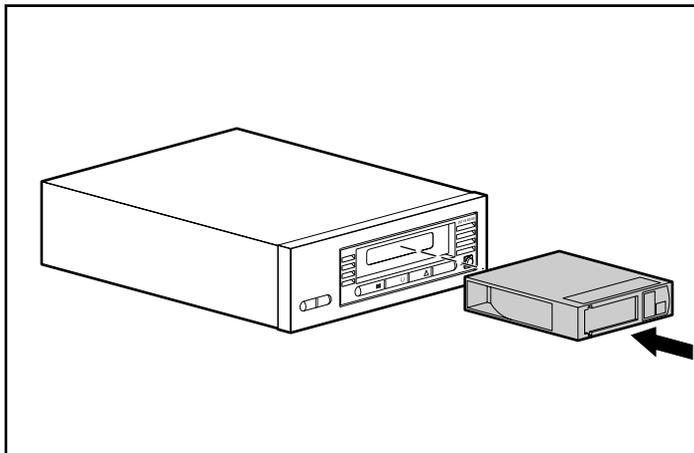

Figure 13: Inserting a DLTape IV cartridge
1. Insert the DLTape IV cartridge into the cartridge slot after the drive completes POST. See Figure 13.